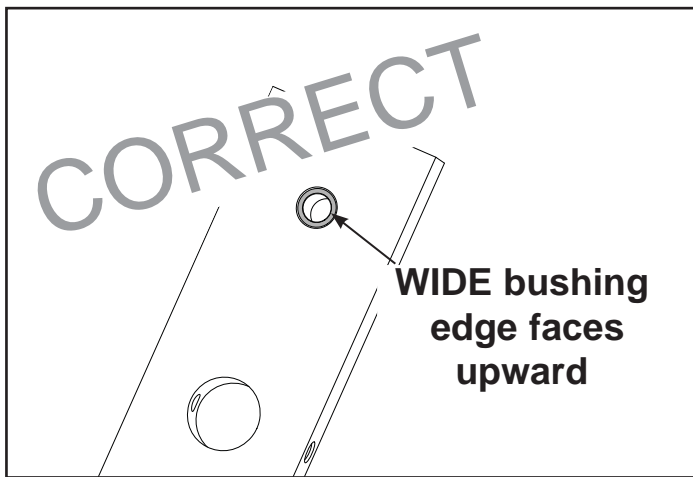

Figure 1A
- M. Carefully align weight plate over guide rods and slowly lower weight plate. **NOTE:** *When installing weight plates, position plates so wide edges of bushing face upward and narrow edges of bushing face downward. See Figures 1A and 1B.*